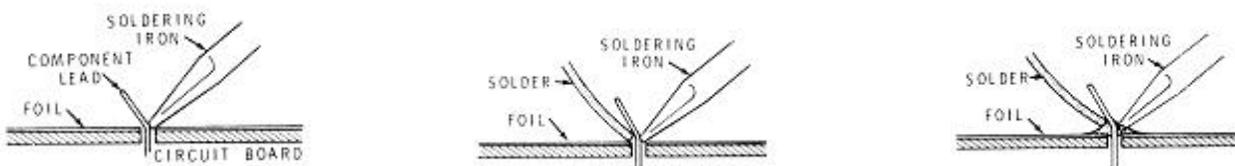

Figure 9. Steps for soldering components to a PCB.
2. Components are then soldered to the board as shown in Figures 9 and 10.